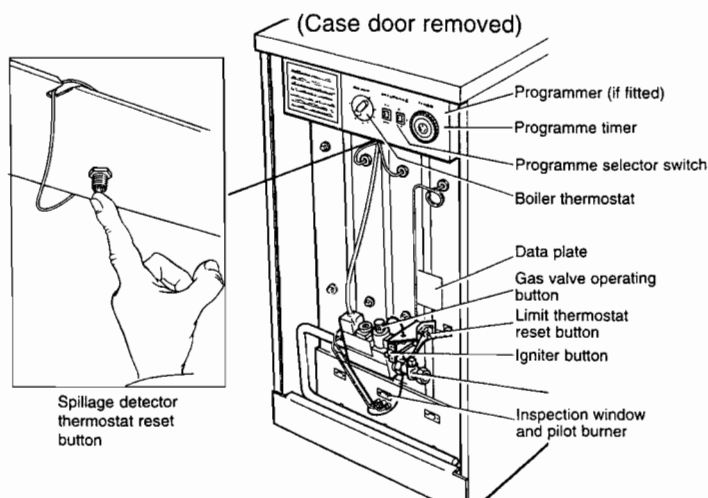

Fig. 4
Remove the case door, see below, and refer to Fig. 4 for the boiler controls
8. **Failure to operate** - if the pilot goes out or fails to light, check that the limit thermostat reset button, see Fig. 4, is pressed in and relight the boiler. If the reset button has to be pressed in again within a short time call your service engineer.
C Models only. If the main burner fails to light turn the boiler thermostat to the 'off' position and check that the spillage detector thermostat reset button (see Fig. 4) is pressed in and then repeat operation 5. If the reset button has to be pressed in again within a short time or the burner fails to light call your service engineer.